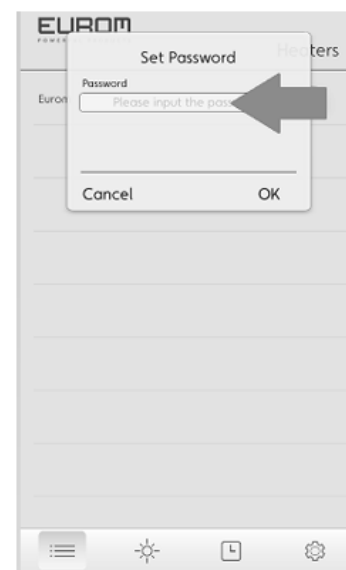

Figure 3
- When using the device for the first time, you will be asked to enter a password. The default password is 12345678 (Fig. 3). If the password is not accepted, you can reset the password by pressing the reset button for 5 seconds.